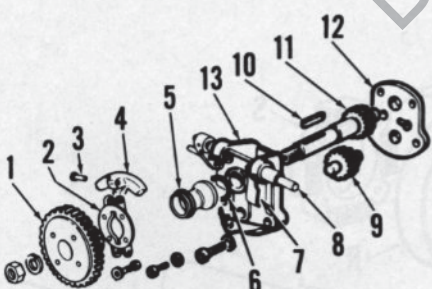
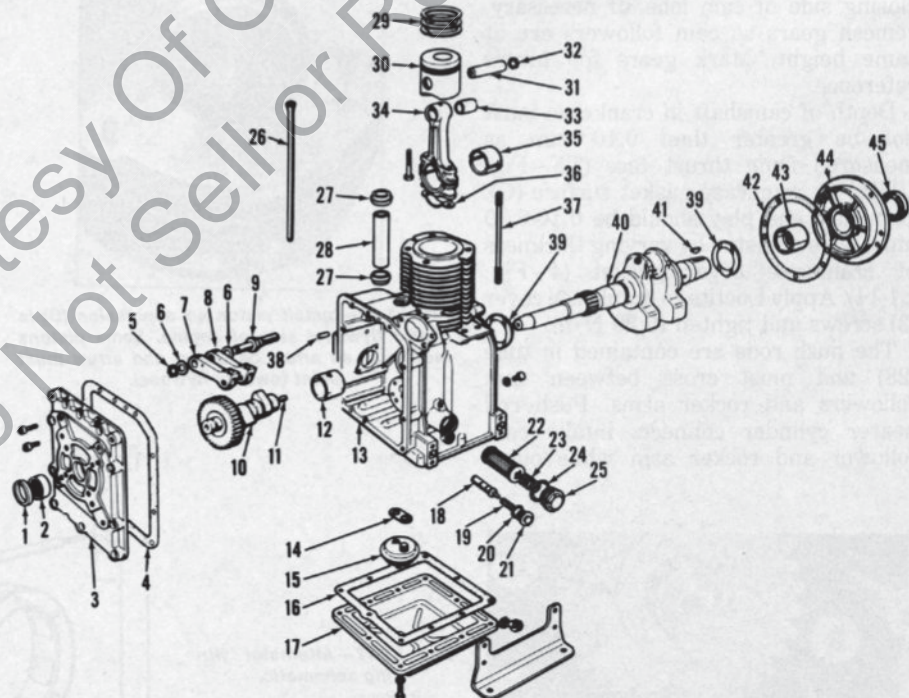
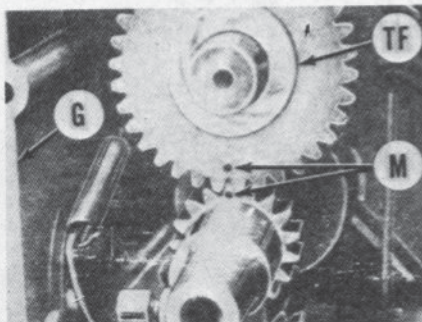

Fig. L1-13—Exploded view of governor and oil pump assembly.
Fig. L1-14—Exploded view of engine.
Fig. L1-15—View of camshaft and crankshaft timing marks (M). Measure depth of camshaft thrust face (TF) from crankcase gasket surface (G) as outlined in text.
Spindle (8—Fig. L1-13) diameter is 7.95 mm. Desired clearance between spindle and bores in oil pump body (13) is 0.06-0.10 mm with a maximum allowable clearance of 0.15 mm.
Refer to Fig. L1-13 for an exploded view of oil pump. The oil pump is accessible after removing crankcase cover (3—Fig. L1-14). Clearance between gears and pump body walls must not exceed 0.15 mm. Renew oil pump if components are excessively worn or damaged. Tighten pump mounting screws evenly to 11.8 N·m.
The camshaft rides directly in crankcase cover and crankcase bulkhead and is accessible after removing crankcase cover (3—Fig. L1-14). Cam followers (7 and 8) pivot on stud (9) and transfer motion to push rods (26) which pass through tube (28) to rocker arms. In addition to valve actuating lobes, a lobe is ground on the camshaft to operate the fuel injection pump.
Install camshaft so timing marks (M—Fig. L1-15) are aligned. If timing marks are absent from gears, proceed as follows: Position piston at top dead center (TDC) then install camshaft so intake cam follower is on opening side of cam lobe and exhaust cam follower is on closing side of cam lobe. If necessary, remesh gears so cam followers are at same height. Mark gears for future reference.
Depth of camshaft in crankcase must not be greater than 0.10 mm as measured from thrust face (TF—Fig. L1-15) to crankcase gasket surface (G). Camshaft end play should be 0.10-0.30 mm and is adjusted by varying thickness of crankcase cover gasket (4—Fig. L1-14). Apply Loctite to crankcase cover (3) screws and tighten to 29 N·m.
The crankshaft is supported by bushing (12—Fig. L1-14) in the crankcase bulkhead, bushing (43) in support (44) and by roller bearing (2) in the crankcase cover.